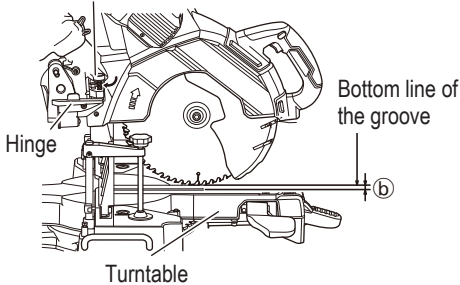

Fig. 53
- (1) Lower the motor head, and turn the 6 mm depth adjustment bolt by hand shown in Fig. 53. (Where the head of the 6 mm depth adjustment bolt contacts the hinge.)